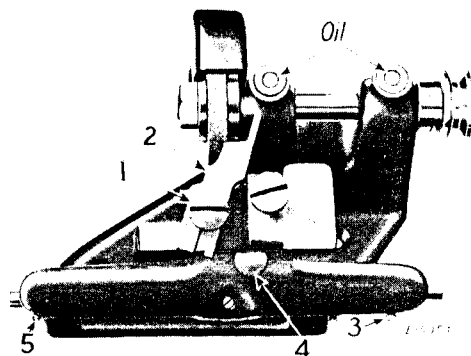

Fig. 22. Grinder 259486
Place knife (2, Fig. 22) in position on grinder and tighten thumb screw (1) as illustrated in Fig. 22.
Knife bracket can be moved closer to or away from the emery wheel by means of adjusting thumb screw (4, Fig. 22). The sidewise movement from right to left is controlled by loosening the screws (3 and 5, Fig. 22), moving the collars as desired and tightening screws (3 and 5).
Apply oil regularly to the two ball oilers indicated by arrows in Fig. 22. This will lubricate the bearings of the grinder shaft.